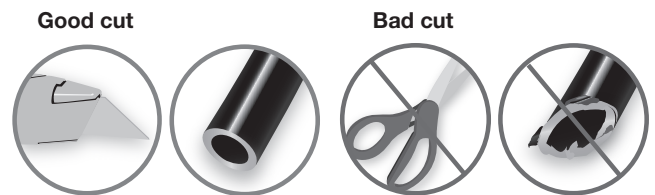

Fig. 13
2. If installing a single-path air line, choose a location for the tee fitting (J) on the cross member as noted in step 6. Determine and cut adequate length of air line (C) to reach to the tee from left and right side air springs. Make clean, square cuts with a razor blade or hose cutter (Fig. 13). Do not use scissors or wire cutters.